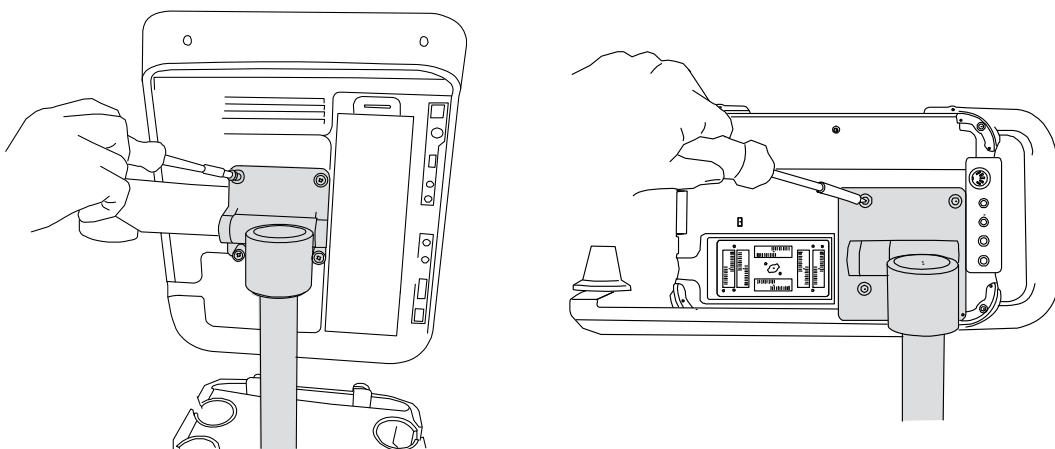

Figure 3 Turn screws on mounting plate: S Series (on left) and NanoMaxx (on right)
- 4 Turn the screw in each of the four corners into the system until the system is secure. Tighten with a Phillips screwdriver. See Figure 3.
- 1 Support the ultrasound system, and loosen the screw in each of the four corners of the mounting plate. If necessary, use a Phillips screwdriver. See Figure 3.